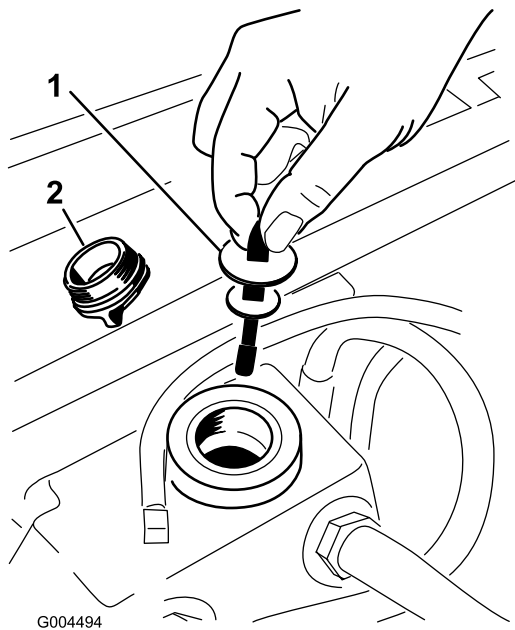

Figure 69
3. Remove the hydraulic fill cap (Figure 69) from filler neck.
4. Remove the dipstick and wipe it with a clean rag (Figure 69).
5. Place the dipstick into the filler neck; then remove it and check level of fluid (Figure 69).